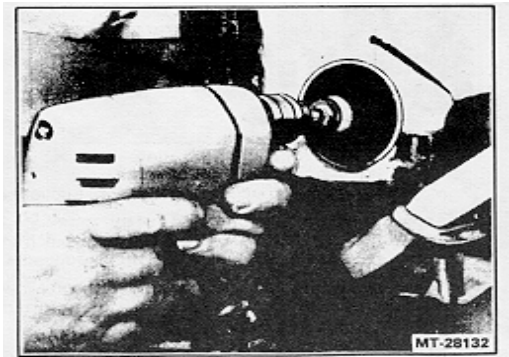

Figure 34. Sanding Underside of Repair Area (Crack Shown Typical)
14. Sand the underside of the repair area with 80 grit (or less) sandpaper to create a rough bonding surface approximately 2 inches from the center of a crack (Figure 34) or 2 inches back from the edge of a fracture.